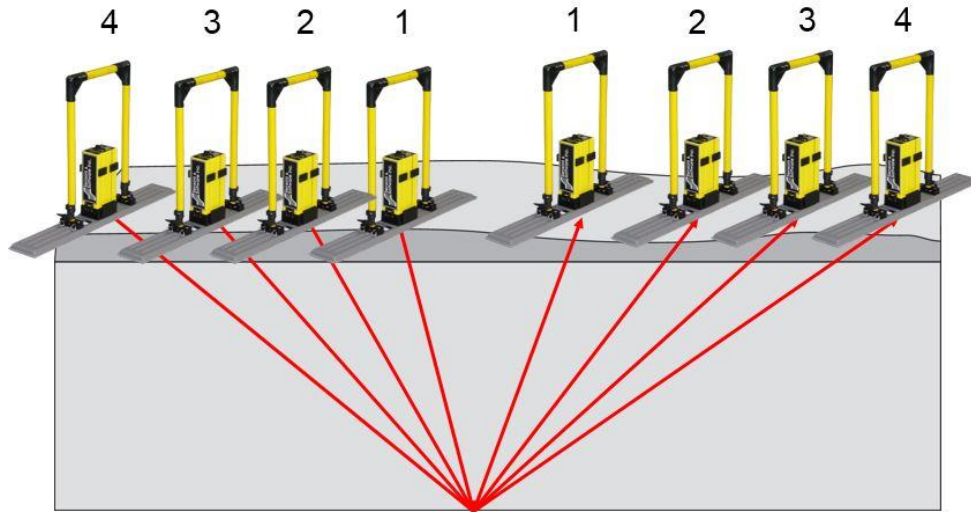

Figure 6-13: Common Mid-Point survey
- **CMP** – Short for Common Mid-Point, this survey is performed when you want to determine GPR velocity in an area. For best results, this survey should be performed in an area with a flat, subsurface boundary. CMP surveys work by increasing the antenna separation about a common middle point, thereby increasing the signal path length. The data collected can be analyzed to determine the velocity in the soil above that reflector (Figure 6-13).